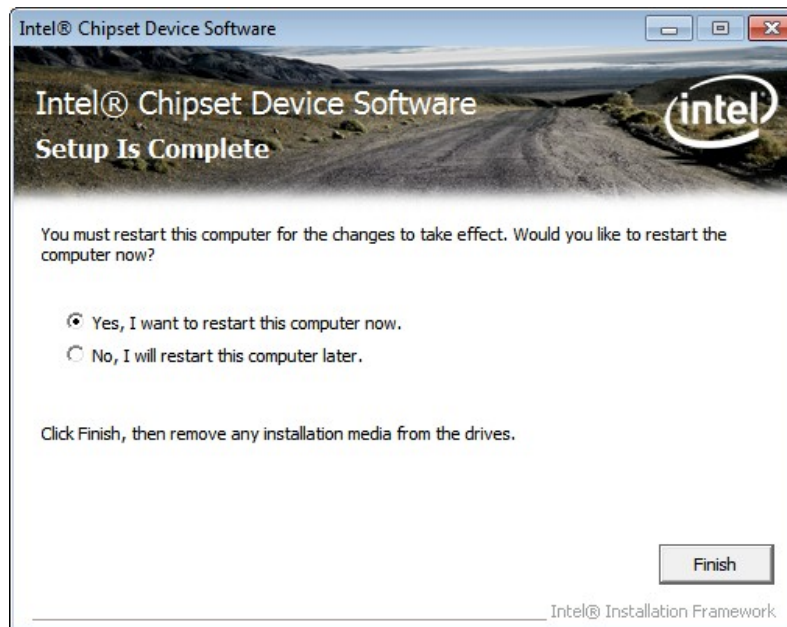

Figure 6-7: Chipset Driver Installation Finish Screen
Step 12: The **Finish** screen in Figure 6-7 appears.
See Figure 6-7.